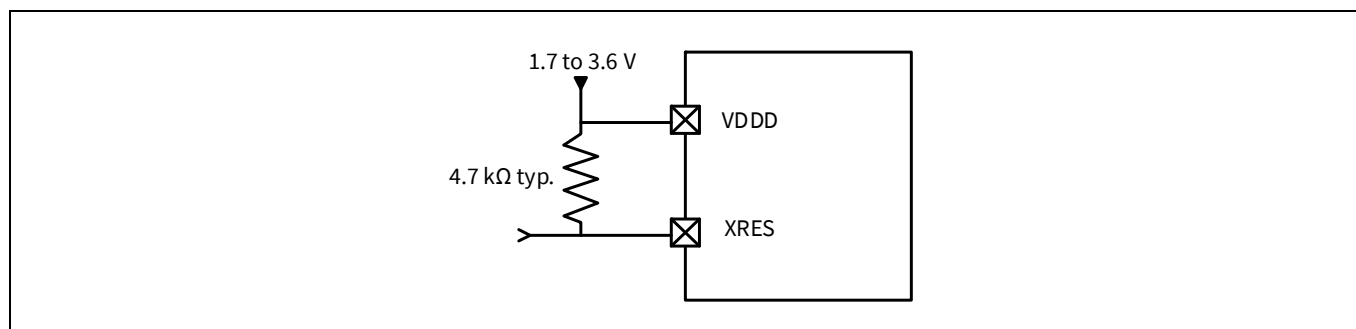

Figure 3 XRES connection diagram
- External reset dedicated pin (XRES) to reset the device using an external source. The XRES pin is active LOW and has a weak internal pull up of 85 kΩ. An optional 4.7 kΩ pull up resistor can be connected to VDDD as shown in Figure 3.